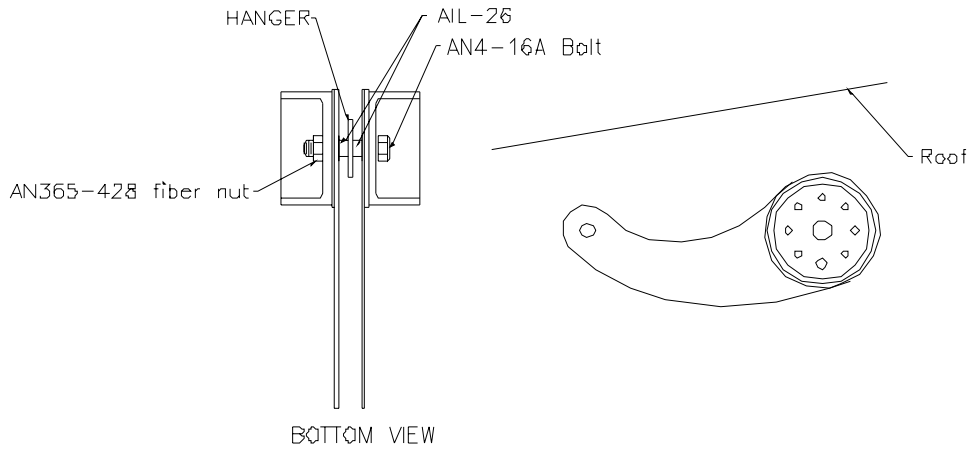

Figure 20.6.5
- 13) Bolt together as in figure 20.6.5 with an AN4-16A bolt, two AIL-26 metal bushings and an AN365-428 fibernut. The metal bushing should be tight against the hanger bracket. The control horns should move freely on the bushings.